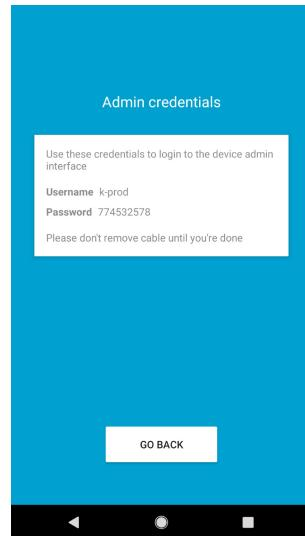

Figure 13
- If **Show admin credentials** is clicked, a one time password for the encoder web interface will be shown (see example in Figure 13). See chapter 5 for details about the web interface.